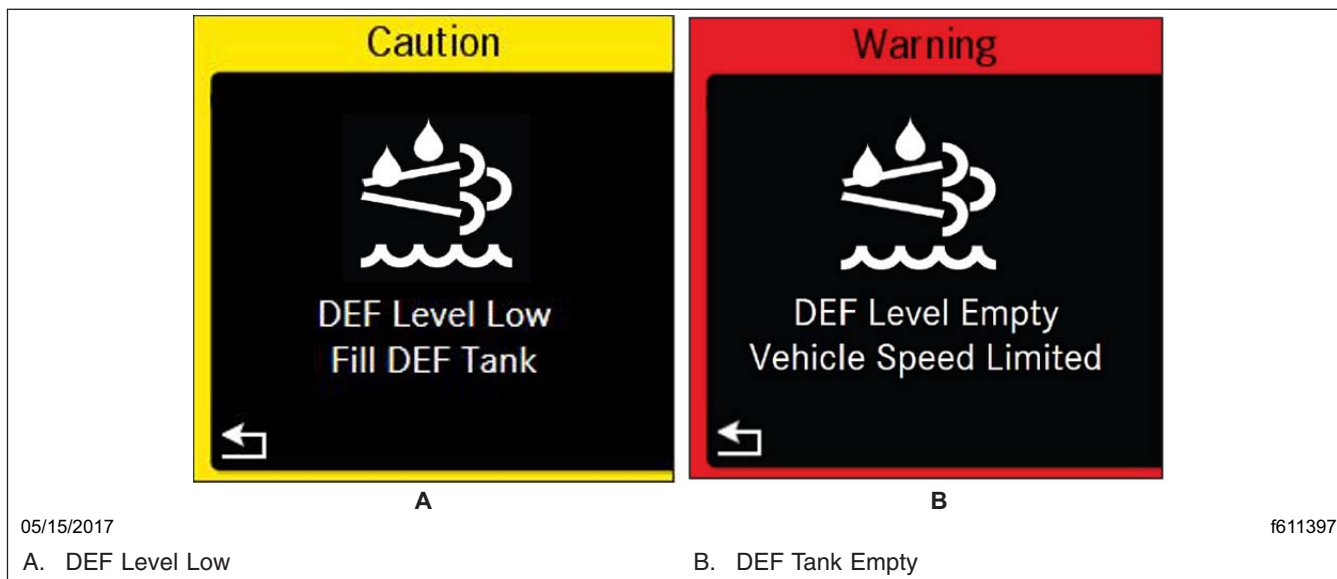

Fig. 12.8, DEF Level Messages
When the diesel exhaust fluid (DEF) level is low, the DEF warning lamp illuminates solid amber, and the driver display screen presents an alert. See Fig. 12.8. Refill the DEF tank in order to cancel the warning sequence.
- The driver display screen presents the warning, "DEF Tank Empty." See Fig. 12.8.